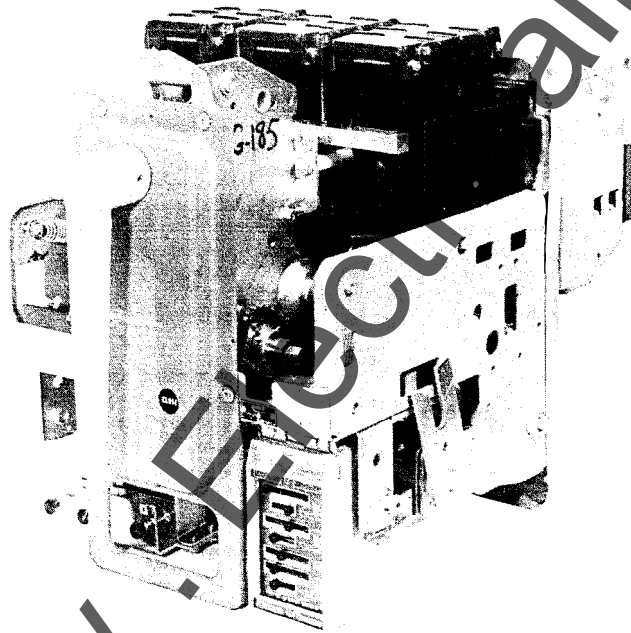

Fig. 2
### CODE A (AKD-6 SWITCHGEAR) (Fig. 2)
**NOTE:** To avoid damaging the arc quenchers, a spreader bar must be used for hoisting these breakers. Two hoisting slots are provided in each side frame—see Fig. 2. The spreader bar's hooks should be placed in the forward slots for non-fused breakers and in the rear slots for fused breakers.